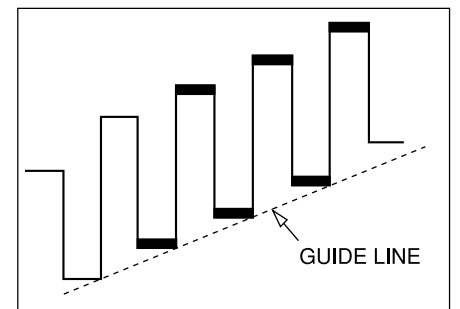

Fig. 3-3
- 2. Use the volume keys on the jig remote controller to align each bottom point of the waveform tangential to the linear ramp as shown in Fig 3-3.